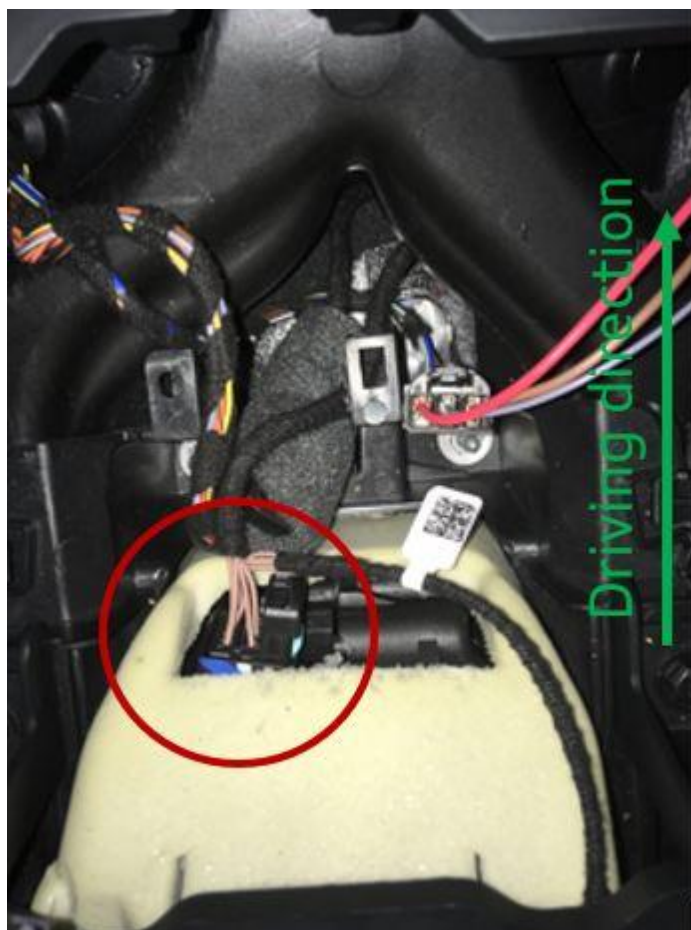

Figure 3. The electrical connection of the selector lever control module.
2. Disconnect the electrical connector from the selector lever control module (Figure 3).